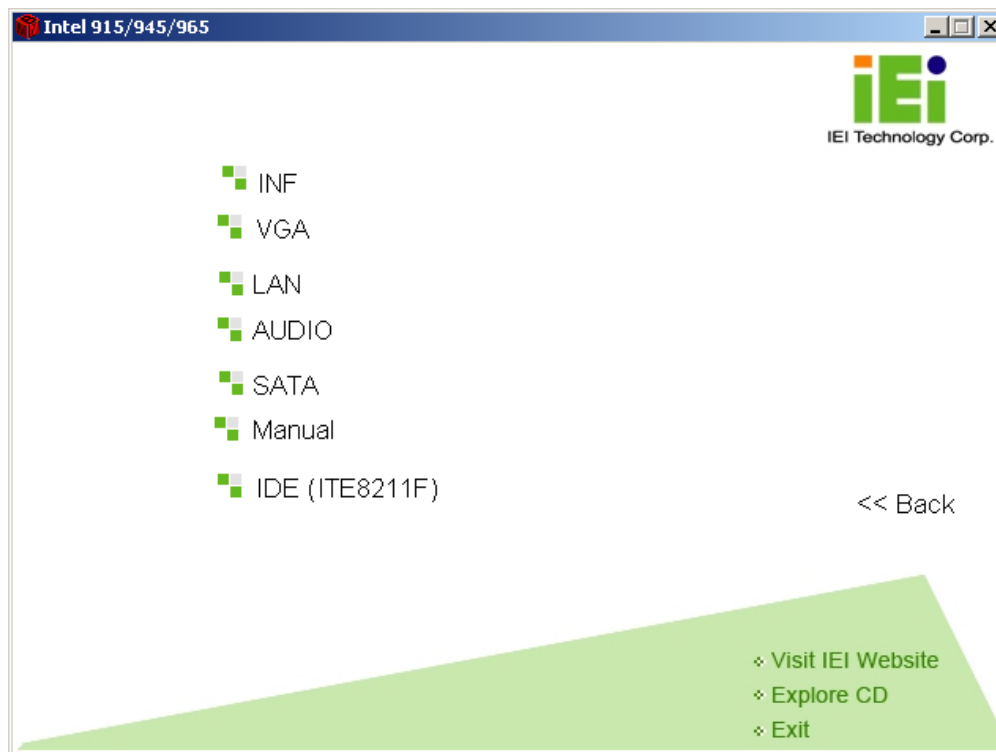

Figure 7-2: Available Drivers
Step 4: A new screen with a list of available drivers appears (**Figure 7-2**).
Step 5: Select the driver to install from the list in **Figure 7-2**.
Step 1: Select the INF driver from the list in **Figure 7-2**.
Step 1: Select the VGA driver from the list in **Figure 7-2**.